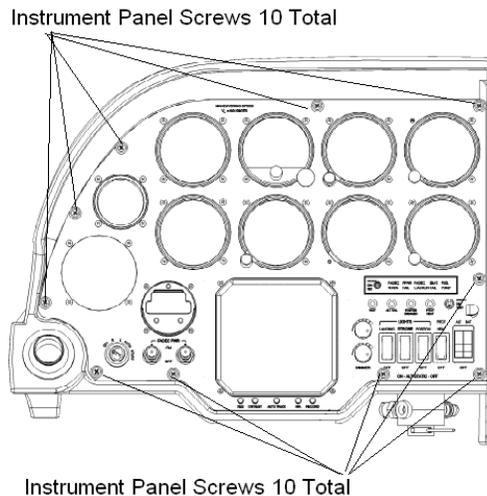

Figure 34-22 Location of the Screws Securing the Instrument Panel
4. Remove the ten screws securing the instrument panel to the instrument console. See Figure 34-22 for location of the screws.
5. Remove the ten screws securing the instrument panel to the instrument console. See Figure 34-22 for location of the screws.